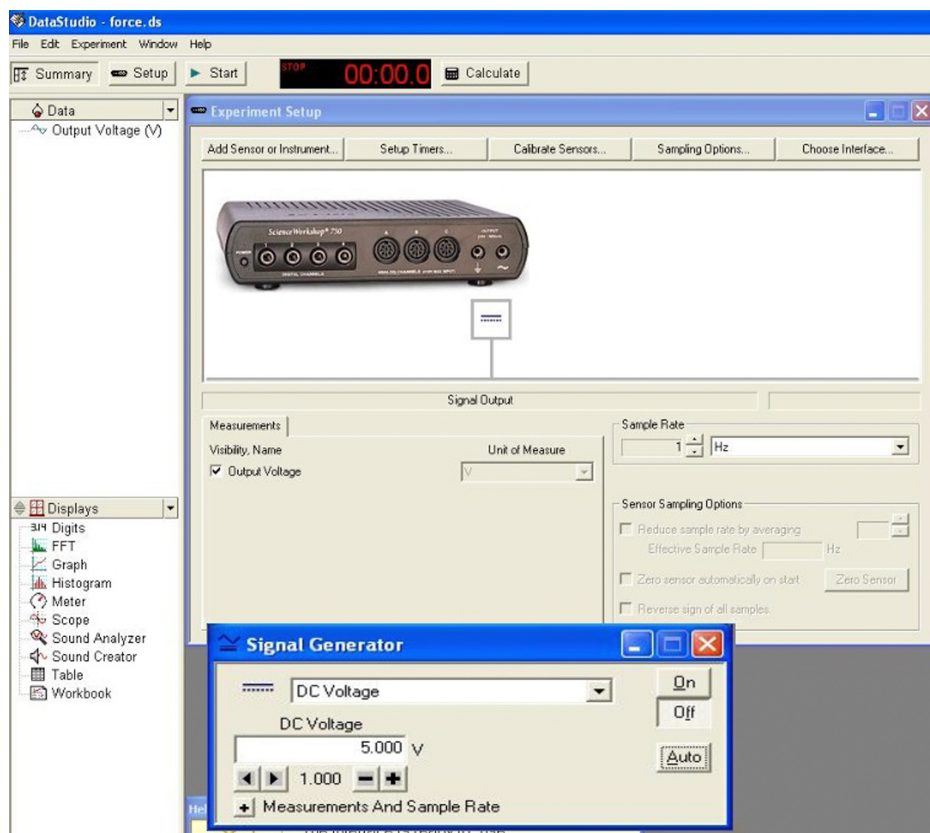

Figure 4: Screenshot of DataStudio file
- 1 Open the DataStudio file associated with this lab, which starts the DataStudio program. A screen similar to Fig. 4 is displayed.